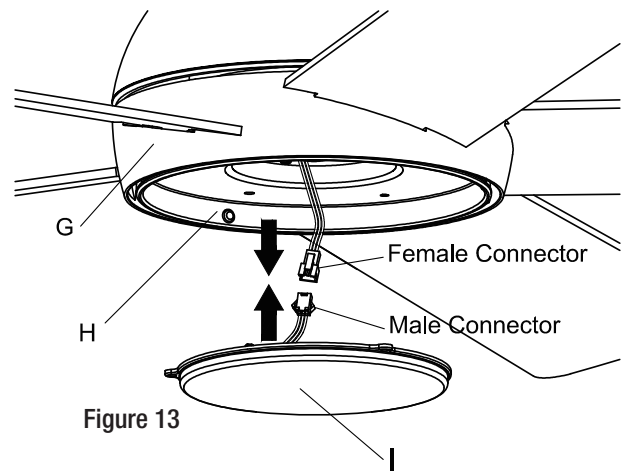
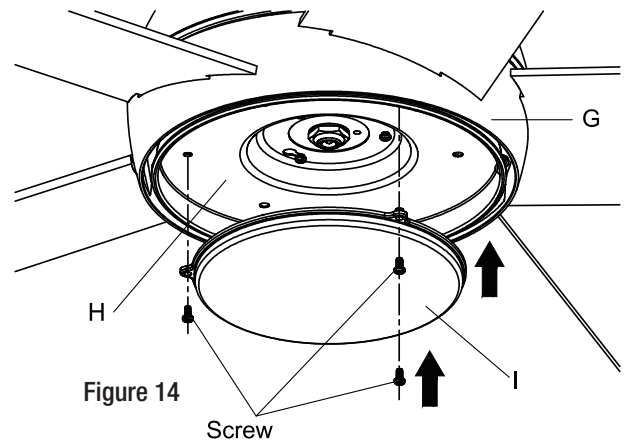

Figure 13
Figure 14
- Connect the male connector from the LED module (I) to the female connector from the fan-motor assembly (G). Figure 13.
- Locate 3pcs screw holes of LED module (I) in line with the screw holes of light housing (H).
- Reattach 3pcs screws through the screw holes of LED module (I). Figure 14.
- Tighten the screws until LED module (I) is secure.